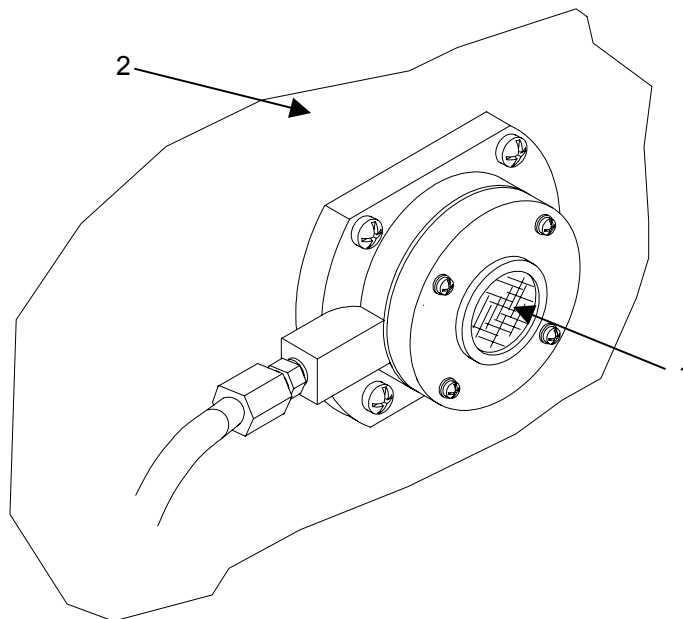

Figure 1. Clean the Fuel Regulator Assembly Air Vent
1. Locate the Regulator Assembly Air Vent (**figure 1, item 1**) on the right side of the fuel tank (**figure 1, item 2**) just below and to the left of the fuel tank filler cap. The air vent is located on the top center of the assembly and is a gold colored metallic material.
2. Ensure that the vent (**figure 1, item 1**) is clean and unobstructed by using a small cleaning brush to gently remove any dirt or debris that might be found.